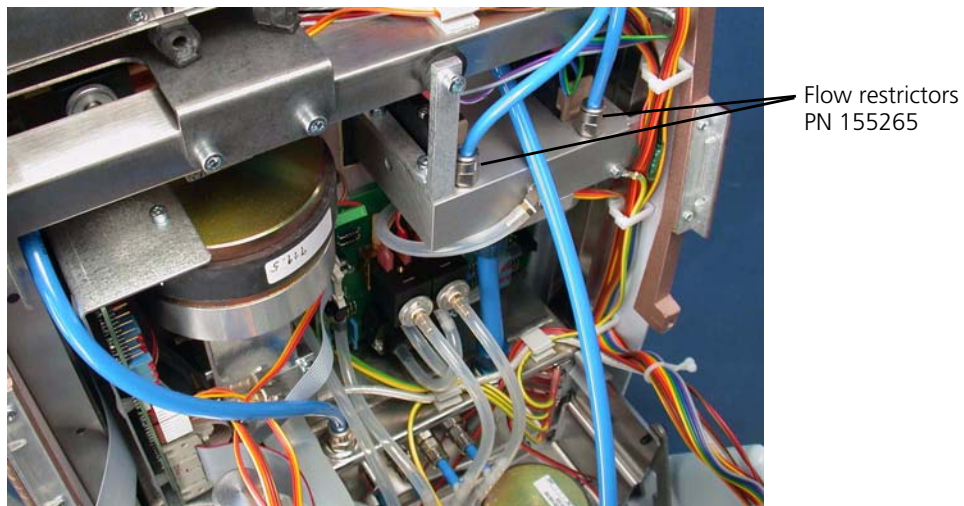

Figure 11-225. The two flow restrictors for the mixer-block to oxygen-cell flows
- Figure 11-225, *The two flow restrictors for the mixer-block to oxygen-cell flows*, on page 11-203
- Figure 11-225 shows the flow restrictors for the calibration gases from the mixer block to the oxygen cell.